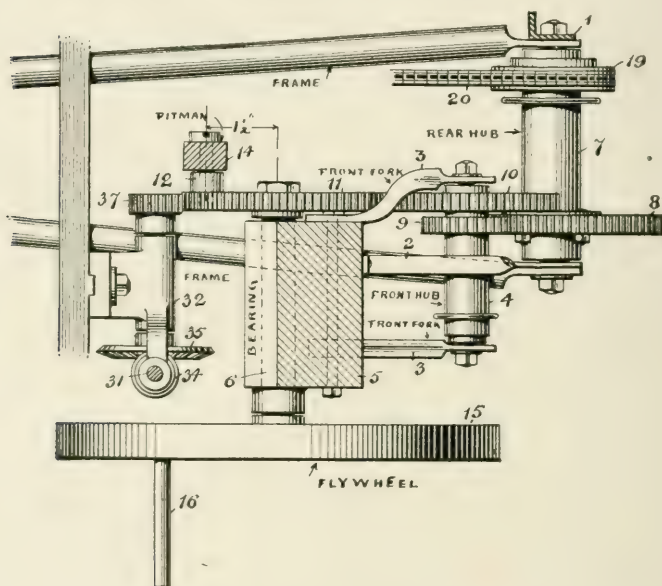
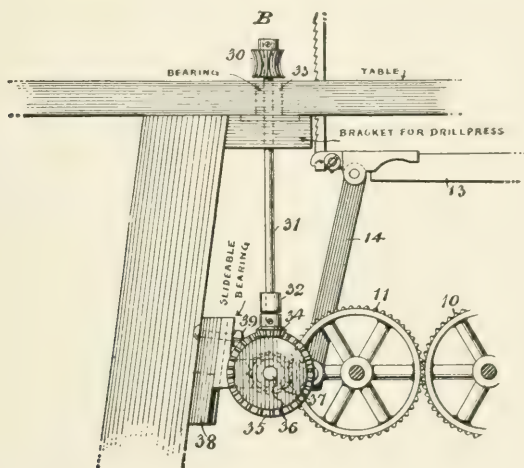

Fig. 47—Plan view of the gearing
Fig. 52—The router or molder
an ordinary shelf bracket 1, depending from the table, and on the other to a small brace 2, which is better shown in the plan view, Fig. 47. The front forks, 3, are cut off and with front hub 4 are fastened to a block of wood, 5, depending from the under side of the table. This block also forms a support for the crankshaft, 6.
*Router.*—The router or molder consists of a small cutter head, 30 (Fig. 52), fastened with a set-screw to shaft 31, mounted in suitable bearings 32 and 33. To the lower end of the shaft is fastened a small bevel gear, 34, meshing with another, 35, mounted on a shaft, 36. The latter revolves in a bracket, 32 (see Fig. 47). At the opposite end of the shaft 36 is a small pinion, 37,
meshing with the gear wheel 11. The bracket 32 is made to slide up and down a short rail, 38, fastened to the legs of the table, and it may be held in position by a bolt, 39. Fig. 52 shows the train of gears in mesh and ready for operation. By unscrewing the nut of said bolt, the bracket may be moved downward, and will cause the gears 11 and 37 to separate, thereby throwing the device out of operation. The cutter head 30 should of course first be removed. It is now evident that by using different-shaped